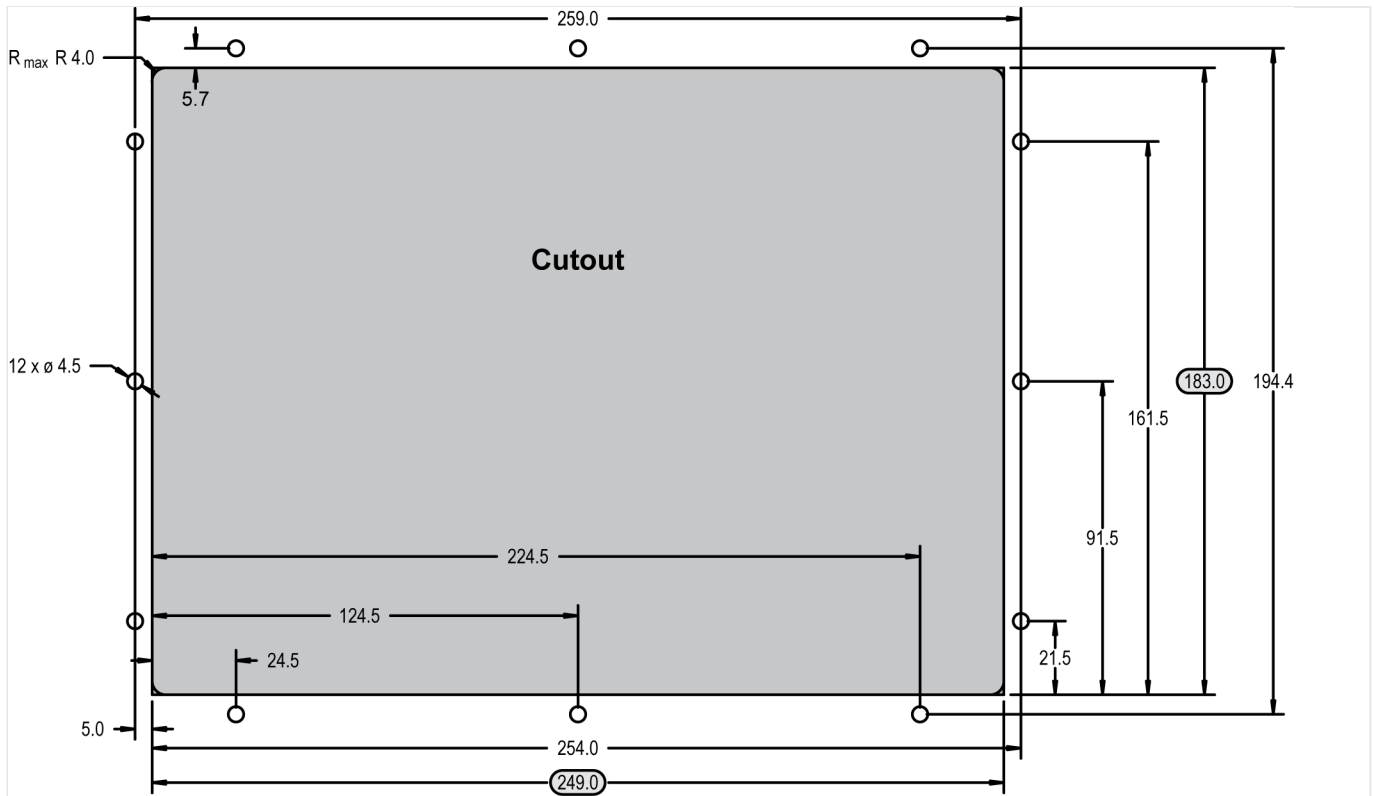

Fig. 17: Plastic housing - drill plan
The housing is equipped with 12 nut inserts (↳ Fig. 17), which must all be tightened properly to achieve the required degree of protection.
1. ▷ Cut out the panel and drill the holes according to the dimensions in Fig. 17 (dimensions shown in mm).